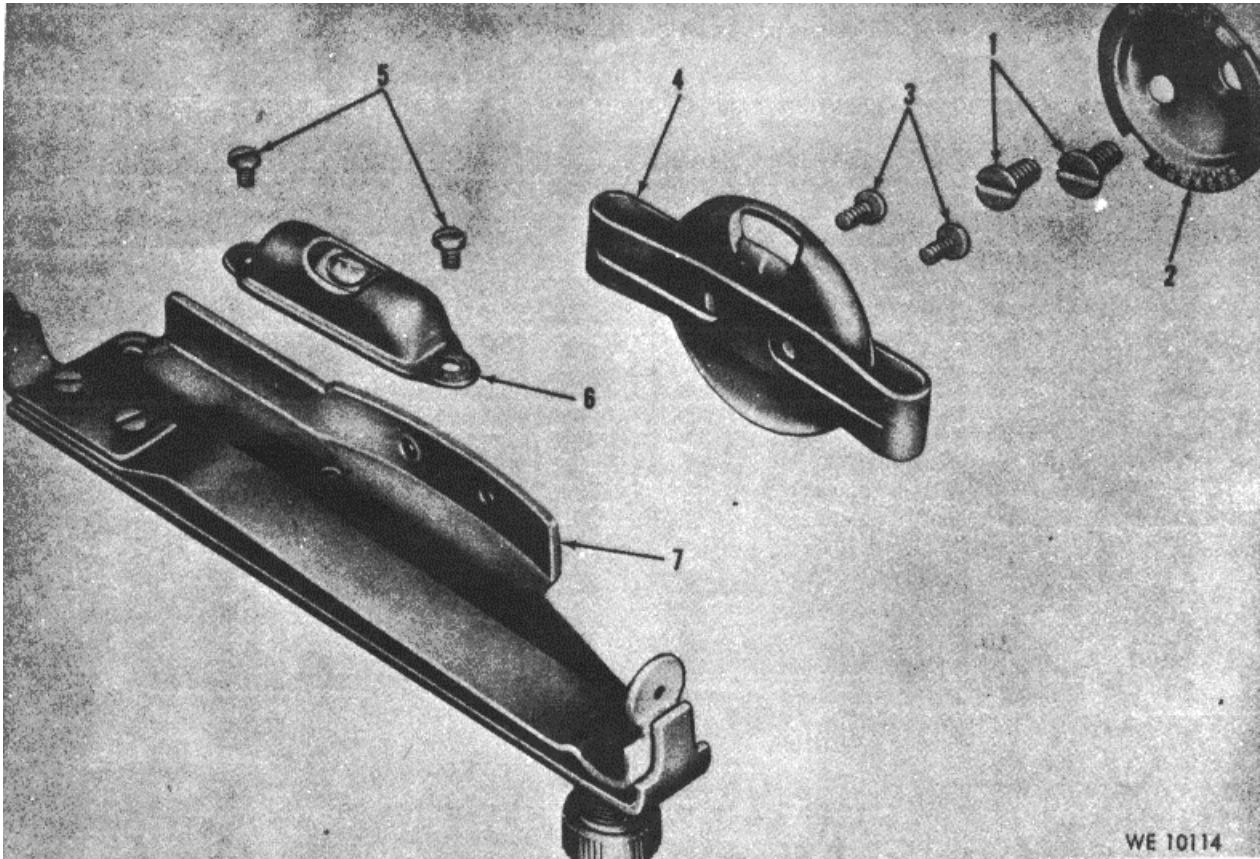

Figure 10-2. Grenade launcher sight-exploded view.
b. To prepare a stock for installation of the grenade sight mounting plate (fig 10-2), drill two holes (fig 10-3) on the left side of the stock. Use improvised template (fig 10-4) for marking the exactness of holes. Drill the holes with drill No. 29 (0.1360) inch.
Refer to figure 10-2.